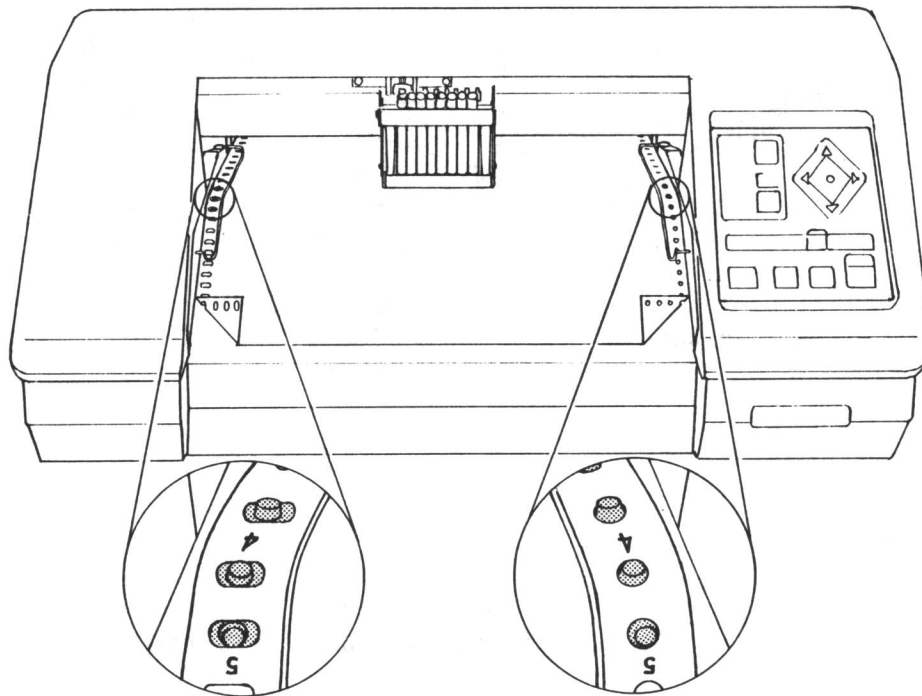

Figure 1-16
6. Align the media holes with the plotter sprockets so that the numbers in the margins of the media correspond (see Figure 1-16).